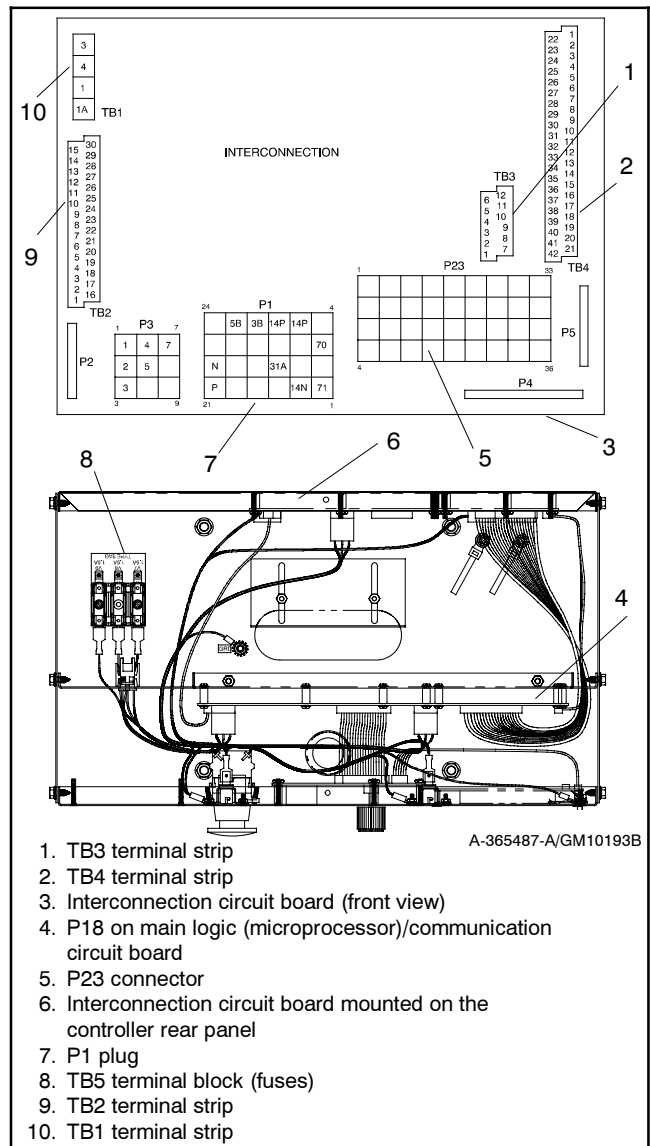

Figure 5-5 Disconnecting Controller Circuit Board External Wiring Connections
- a. Remove the controller cover. If access to the interconnection circuit board on the rear panel and/or the main logic/communication circuit board on the front panel is difficult to access, partially disassemble the controller box. Remove the two controller panel top screws and center bottom screw and then loosen the bottom screw on each side to swing the controller panel down. See Figure 5-5.
b. Disconnect the controller harness leads. Listed below are some common leads and plugs that require removal or disconnection. Items below in **bold** are shown in Figure 5-5. These connections are typical and may not apply to all applications. See the corresponding wiring diagram found in the wiring diagrams manual.
- a. Remove the controller cover. If access to the interconnection circuit board on the rear panel and/or the communication circuit board on the front panel is difficult, partially disassemble the controller box. Remove the two controller panel top screws and center bottom screw and then loosen the bottom screw on each side to swing controller panel down. See Figure 5-5.